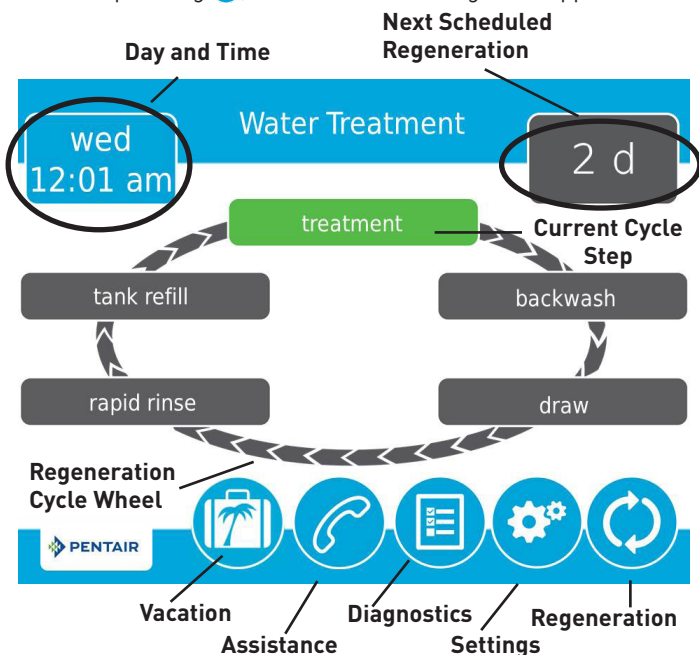

Figure 8 Home Screen
5. After pressing , the Home screen (Figure 8) appears.